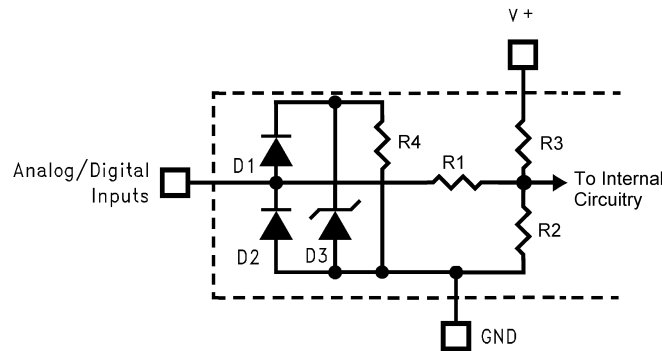

Figure 2. ESD Protection Input Structure
- (1) Parasitics and or ESD protection circuitry are shown in Figure 2 for the LM87's pins. The nominal breakdown voltage of the zener D3 is 6.5 V. Care should be taken not to forward bias the parasitic diode, D1, present on pins: A0/NTEST\_OUT, A1 and DACOut/NTEST\_IN. Doing so by more than 50 mV may corrupt a temperature or voltage measurement.
- (2) Typicals are at  $T_J = T_A = 25^\circ C$  and represent most likely parametric norm.
- (3) Limits are specified to TI's AOQL (Average Outgoing Quality Level).
- (4) The Temperature Error specification does not include an additional error of  $\pm 1^\circ C$ , caused by the quantization error.
- (5) The Temperature Error will vary less than  $\pm 1^\circ C$  over the operating  $V_{CC}$  range of 2.8V to 3.8V.
- (6) TUE (Total Unadjusted Error) includes Offset, Gain and Linearity errors of the ADC.
- (7) Total Monitoring Cycle Time includes all diode checks, temperature conversions and analog input voltage conversions. Fan tachometer readings are determined separately and do not affect the completion of the monitoring cycle.
- (8) This is the lowest DAC code specified to give a non-zero DAC output.